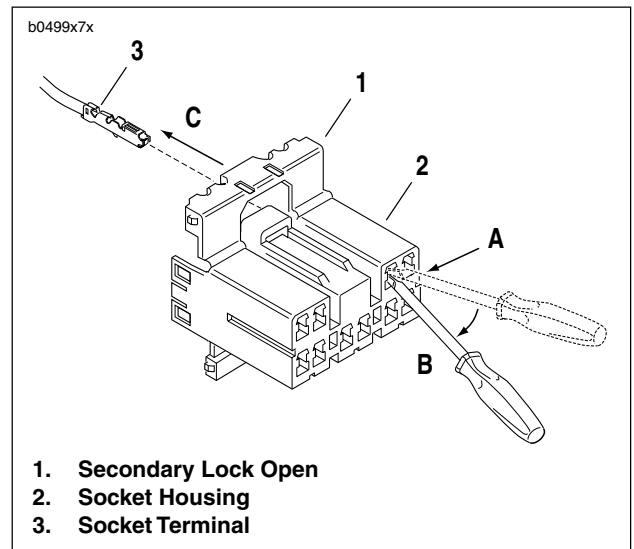
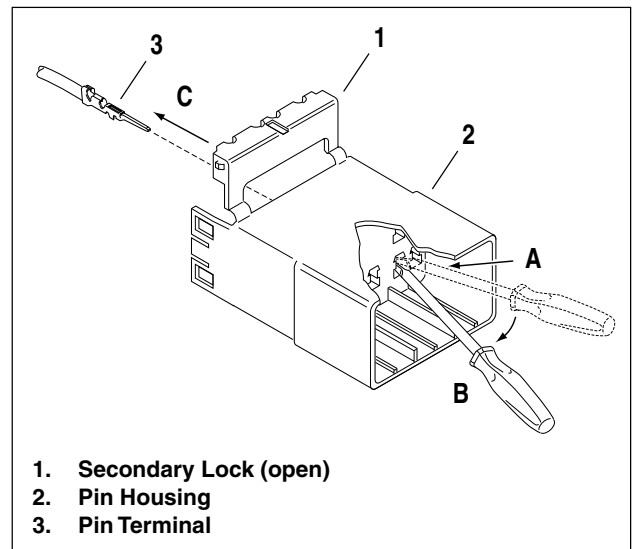

Figure 7-79. Socket Terminals
Figure 7-80. Pin Terminals
7. Remove socket terminal (Figure 7-79.) or pin terminal (Figure 7-80.)
- a. If installing socket terminals, see Figure 7-79.
- b. If installing pin terminals, see Figure 7-80.